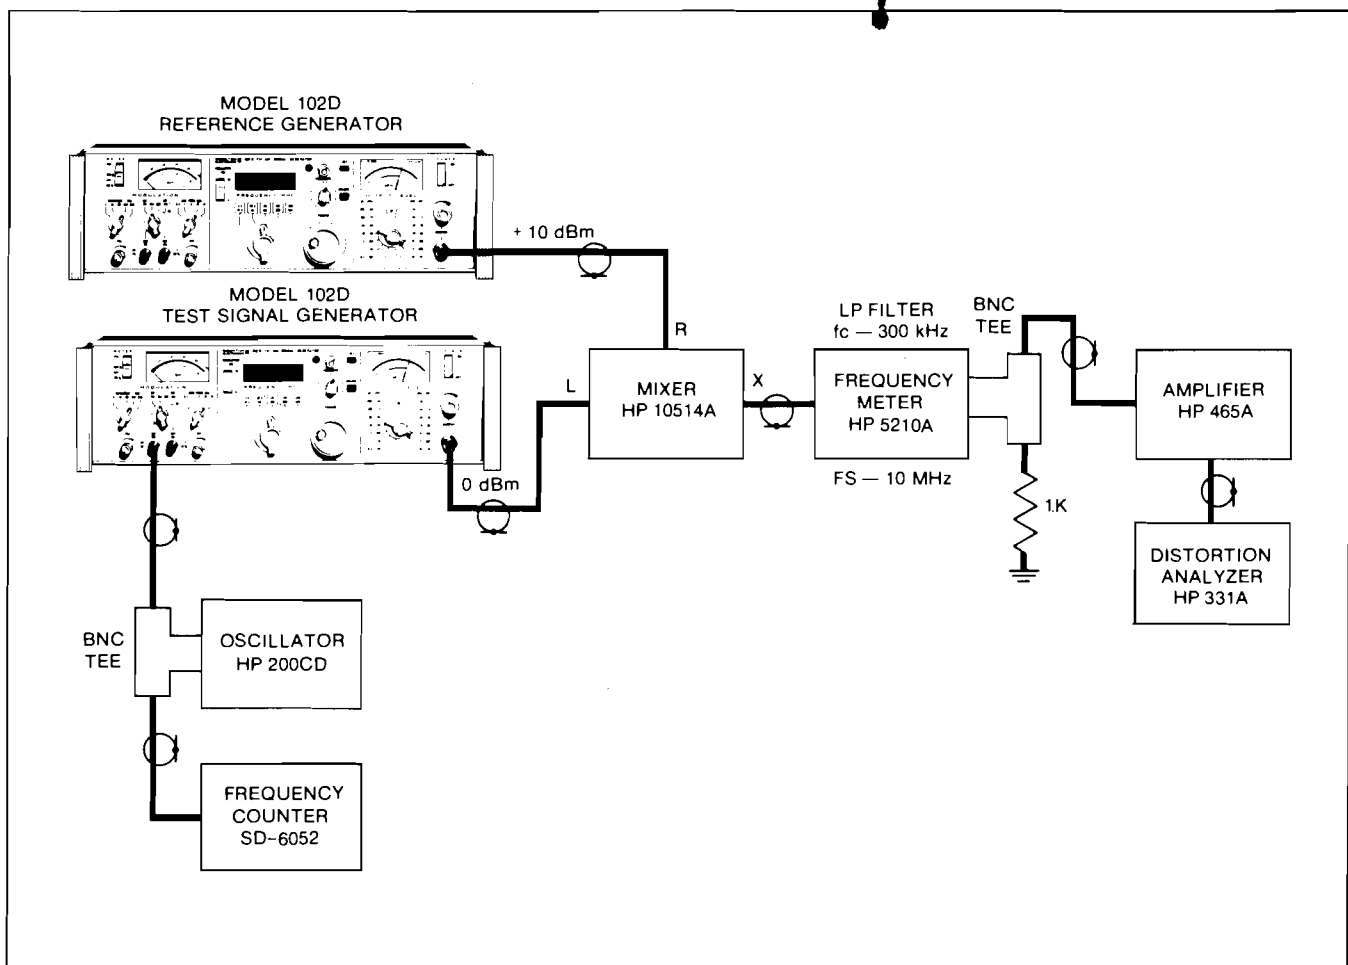

Figure 4-3 FM Deviation Tracking and Calibration, Test Setup
f. Insert a small jeweller's screwdriver into the access opening and adjust the Model 102D for an indication of (1)00.0000 on the output frequency indicator.
a. Connect the Model 102D and test equipment as shown in Figure 4-3.